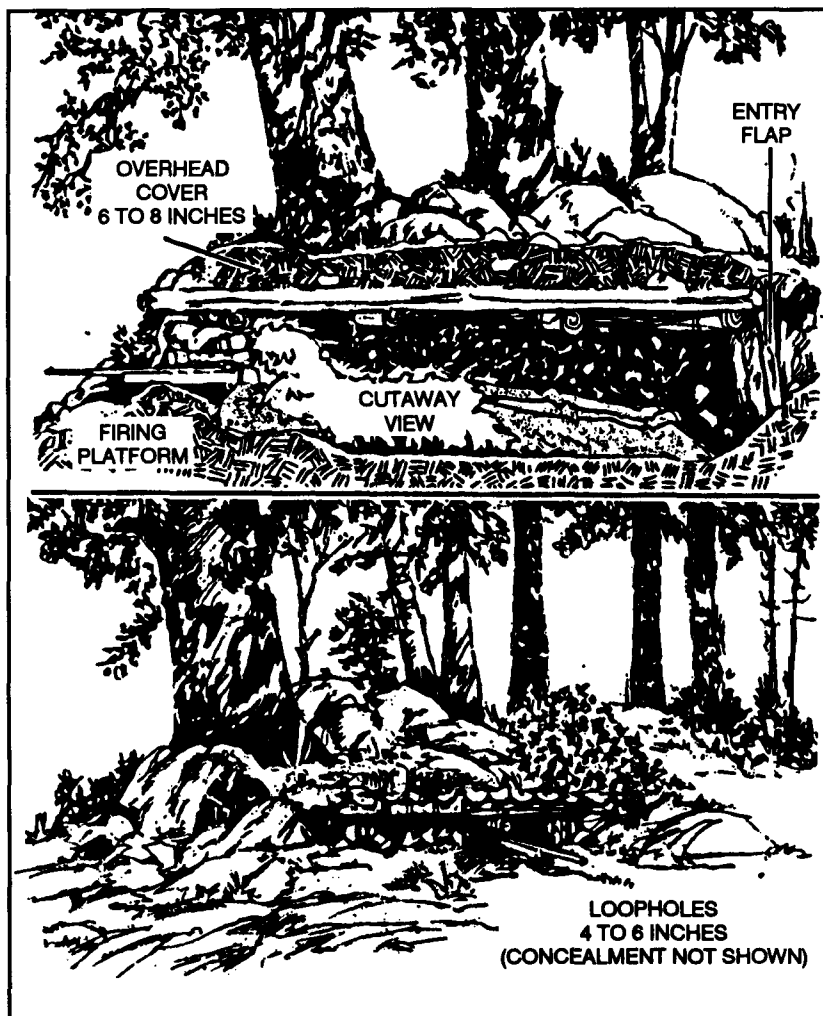

Figure 4-11. Belly hide position.
e. **Belly Hide.** The belly hide (Figure 4-11) is similar to the expedient position, but it has overhead cover that not only protects the team from the effects of indirect fires but also allows more freedom of movement. This position can be dugout under a tree, a rock, or any available object that provides overhead protection and a concealed entrance and exit. The belly hide is characterized by the following
(1) Advantages: